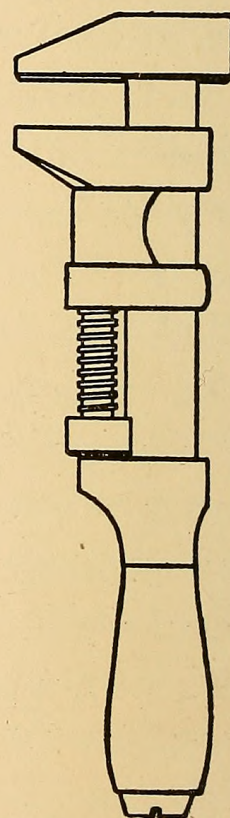

FIG. 39. — Wrench.
**Wrench** (Fig. 39) for tightening and loosening nuts, and other operations; this will be a good addition to make to your outfit when you can afford it.